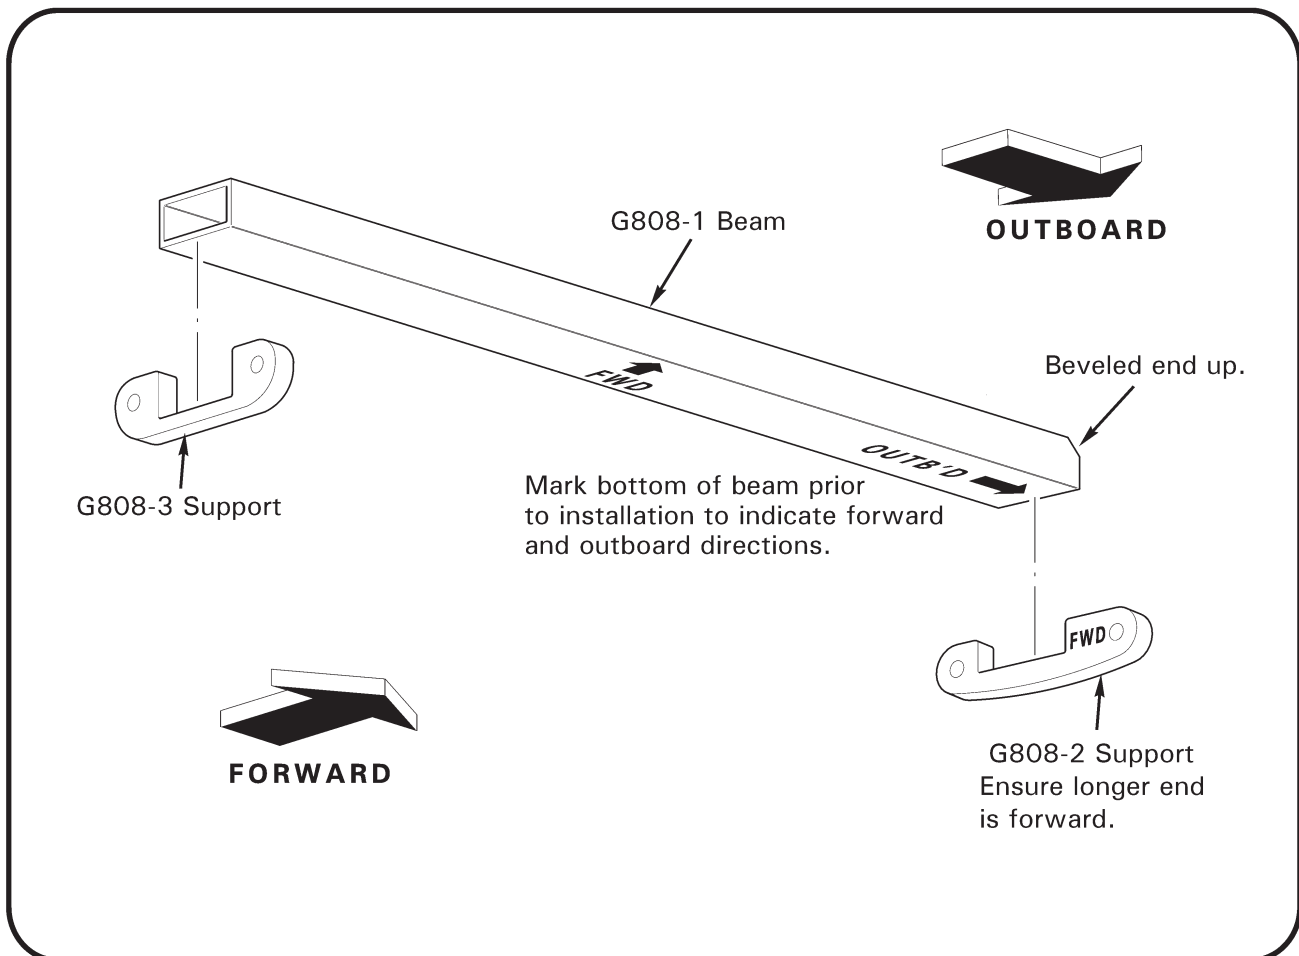

FIGURE 5 Installation positioning diagram
7. Refer to Figure 5. Mark G808-1 beam for forward and outboard directions, and G808-2 (longer end) for forward direction.
8. Refer to Figure 4. Position G808-2 support on inboard-side (battery compartment) of G004-3 skin as depicted. Temporarily secure support (on one side) using appropriately-sized cleco, ensuring both open rivet holes align with holes of support and longer side of support is forward (see Figure 5).
9. Install (1) NAS9301B-4-05 rivet in open rivet hole from exterior G004-3 skin. Remove cleco and install remaining NAS9301B-4-05 rivet to secure support. At installer's option, MS20470AD4-series solid rivets may substitute for NAS9301B-4-series rivets, provided due care is used to preserve exterior finish.
10. Refer to Figures 5 & 6. Position G808-3 support on baggage compartment-side of G251-1 panel, with support aft-hole over existing rivet hole, and install appropriately-sized cleco in aft hole. Position support bottom edge flush with lower edge of panel and clamp in place. Using support as drill guide, drill (1) 0.127–0.133 inch diameter hole; transfer cleco, then drill (enlarge) opposite hole. Remove support. Create (2) 0.180–0.200 inch diameter, 100° countersinks at holes on baggage compartment-side of panel.
11. Refer to Figures 5 & 6. Position G808-1 beam on G808-2 support, beveled end up. Simultaneously install G808-3 support and beam to battery-side of G251-1 panel as depicted, using appropriately-sized clecos. Progressively remove clecos and install (2) NAS1097AD4-7 rivets. Clean up debris.